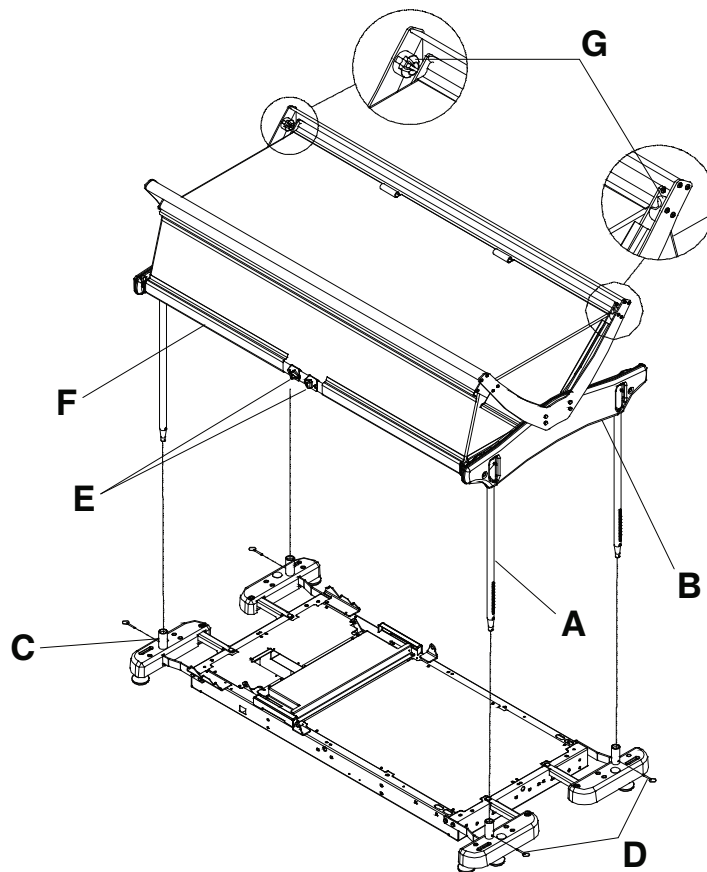

Figure 18 – Protective top with supports
1. Press the lock pin located on the top section of each post (A) and insert the post into the slot of the plastic structure (B) (Figure 18). Repeat for the other posts.
2. Install the four posts in the accessory bracket sockets (C) (Figure 18).
3. Using a 9/16" combination wrench, lock the posts in the accessory bracket sockets with the four hitch pins (D) (Figure 18).
1. To partially open the protective top, squeeze the two release knobs (E) and lift the lower rail (F) until the anchors points are passed (G) (Figure 18). Release the knobs and lower the rail until it rests on the anchor points.
2. To completely open the protective top, squeeze the two release knobs (E) and lift the lower rail (F) to the maximum height and release the knobs (Figure 18).
3. To close a partially open protective top, lift the lower rail (F) from the anchor points (G) and squeeze the two release knobs (E) while lowering the rail to the closed position (Figure 18). Release the knobs.
4. To close a completely open protective top, squeeze the two release knobs (E) and lower the lower rail (F) to the closed position (Figure 18). Release the knobs.